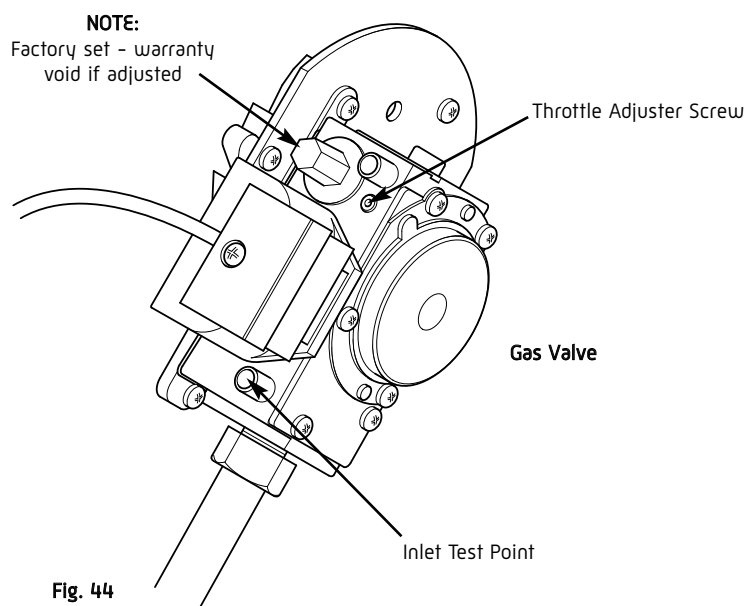

Fig. 44
1. With the boiler firing at maximum gas rate, check that the inlet pressure at the appliance is 19mbar +/- 1mbar when measured at the inlet pressure test point (Fig. 44).